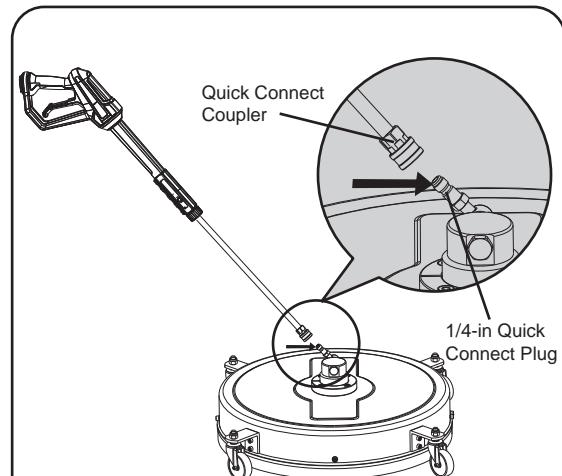

Figure 1
2. Attach the surface cleaner's 1/4-in quick connect plug into the end of the pressure washer wand (**See Figure 1**).